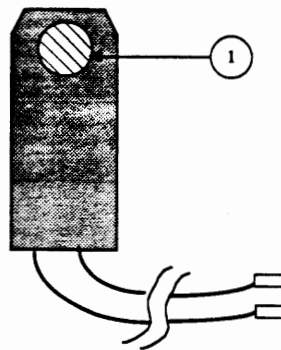

FIGURE 3-2
This procedure requires a multimeter and the laser power checker (Figure 3-2), which comes in your LaserWriter Spares Kit.
4. Insert the Laser Power Checker (Figure 3-2) into the access hatch with the detector (Figure 3-2, #1) facing the laser.